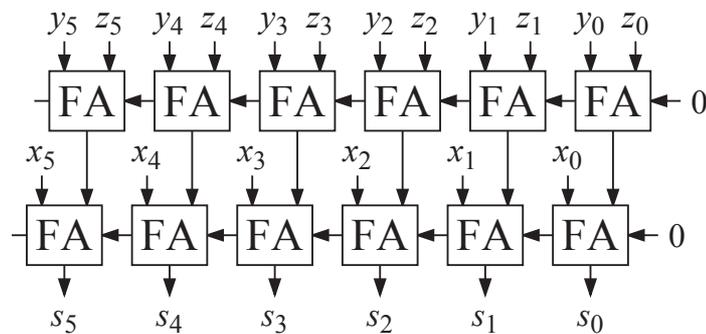

Figure 4. Adder schematic.
A circuit used for adding three 6-bit binary numbers $X = \langle x_5, \dots, x_0 \rangle$, $Y = \langle y_5, \dots, y_0 \rangle$, $Z = \langle z_5, \dots, z_0 \rangle$ and computing a sum $S = \langle s_5, \dots, s_0 \rangle$ is shown in Figure 4. The inputs come from registers. A full adder (FA) has the propagation delay 60 ps for all inputs to all outputs. To solve the problems below you may use 2:1 multiplexers that have a propagation delay of 50 ps, and inverters that have a propagation delay of 30 ps.